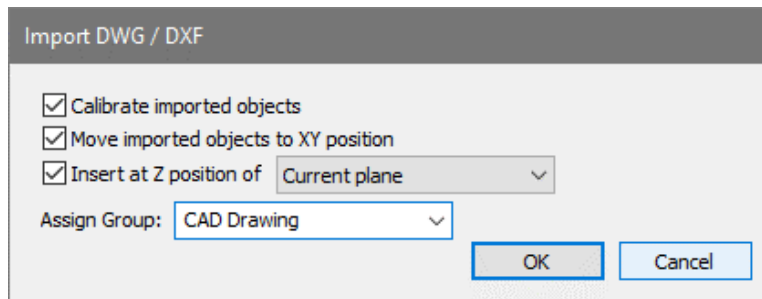

Figure 2-19
- Click on the Assign Group text box and type “CAD Drawing”, after this the Import DWG/DXF window will look as shown in **FIGURE 2-19**.